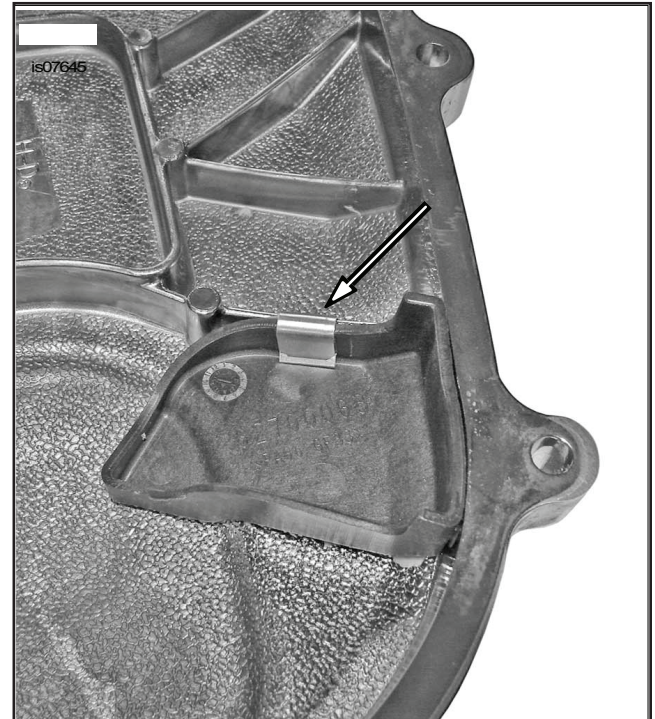

Figure 3. Install Deflector and Retaining Clip, not included in kit
4. and press firmly into place. Slide deflector into position. See Figure 3. Carefully position deflector in primary cover DO NOT lift.